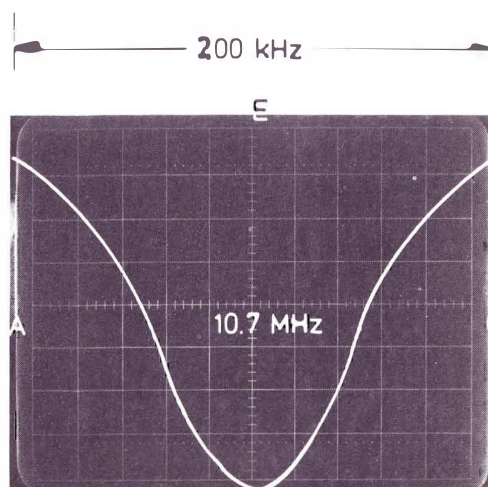

Fig. 18. IF band-pass curve
- Adjust the core of the primary circuit of the ratio-detector to maximum and symmetry of the band-pass curve, so that the top of the curve at 10.7 MHz is on line EF (Fig. 18).